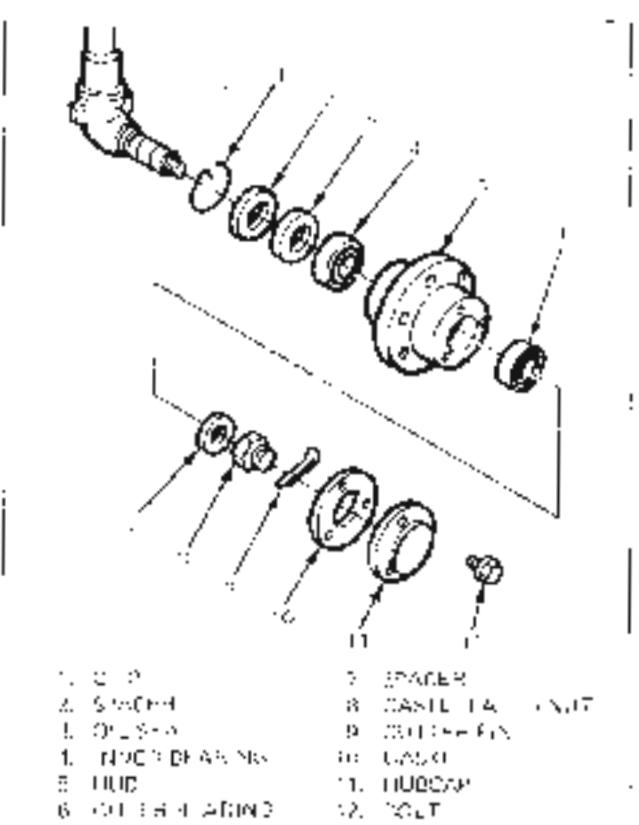

Figure 65. Spacing Front Wheel Bearing Two-Wheel Drive (SD4300 and SD5000T).
2. Remove front of the front wheel and spindle. Use Figure 65, the center part of the rear of Figure 65. Record the space for bearing and type the complete wheel assembly.